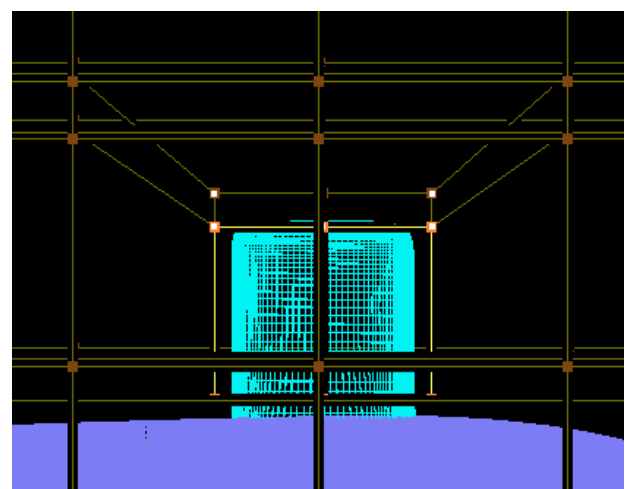

Figure 20.2
- Remove the above corners layer from group 1 as shown in figure 20.2.